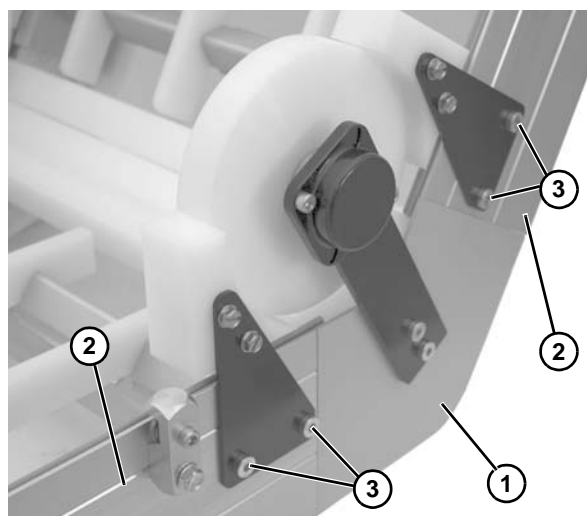

Figure 9
2. Attach lower knuckle (**Figure 9, item 1**) to frame (**Figure 9, item 2**) by using socket head screws (**Figure 9, item 3**). Repeat on other side.